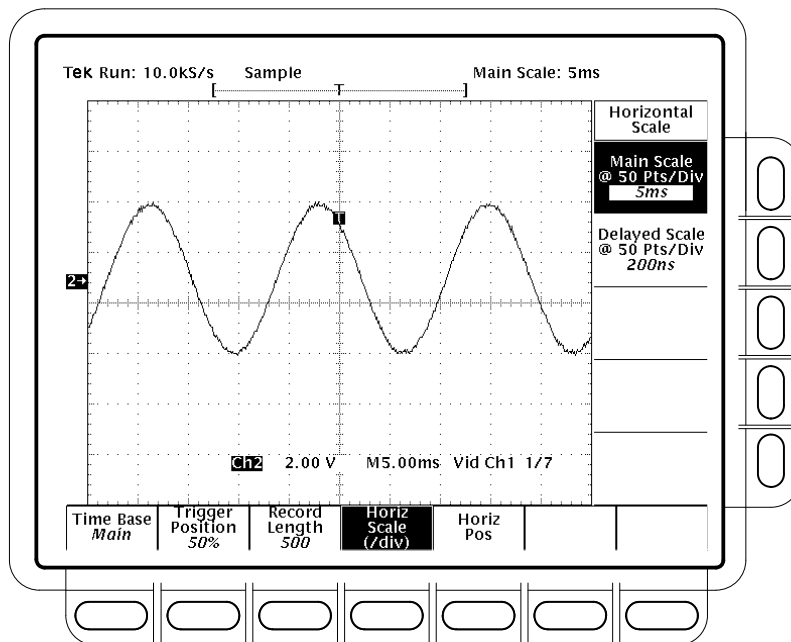

Figure 1-31: 60 Hz Rejection Test Setup Signal
- Adjust the SG 502 for three vertical divisions of 60 Hz signal. See Figure 1-31. The signal will not be triggered. That is, it will run free.